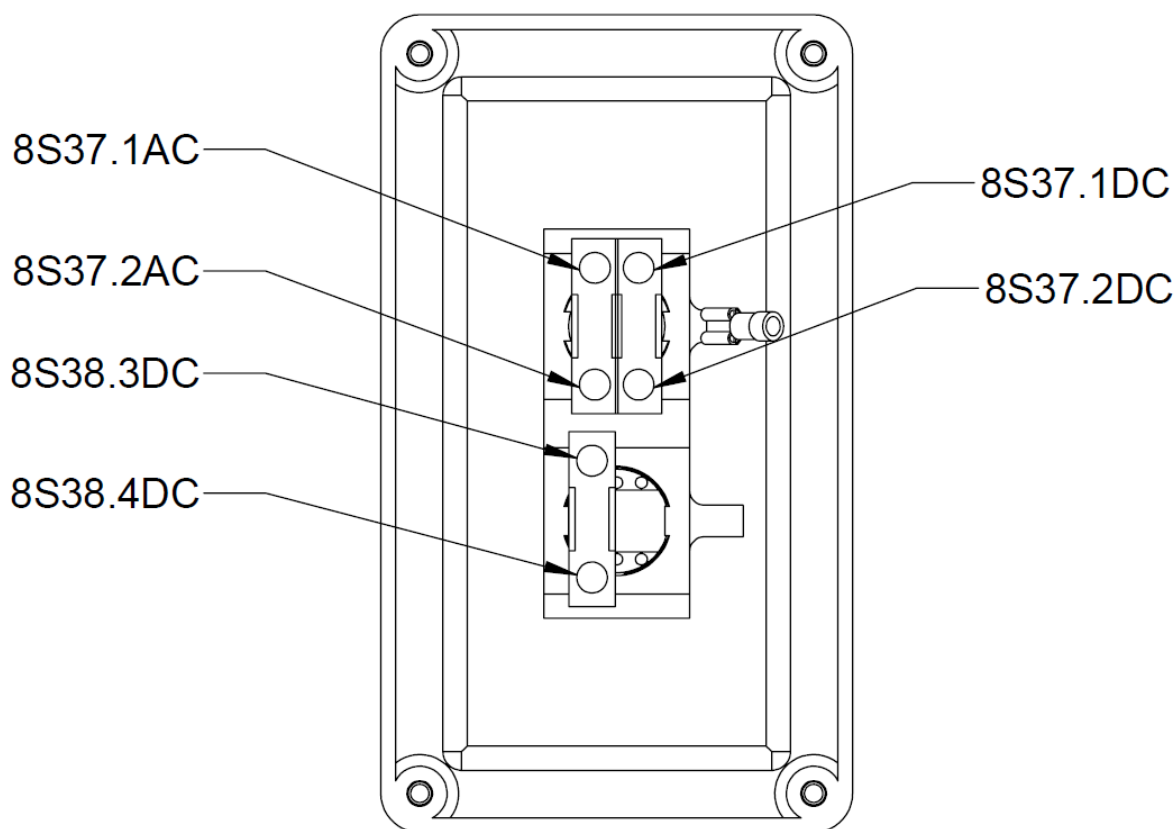

Figure 140 - Terminal Designations for System Stop Button Box with Reset
- Terminal numbers are shown in Figure 140 for PDQ Part No. 11010173.